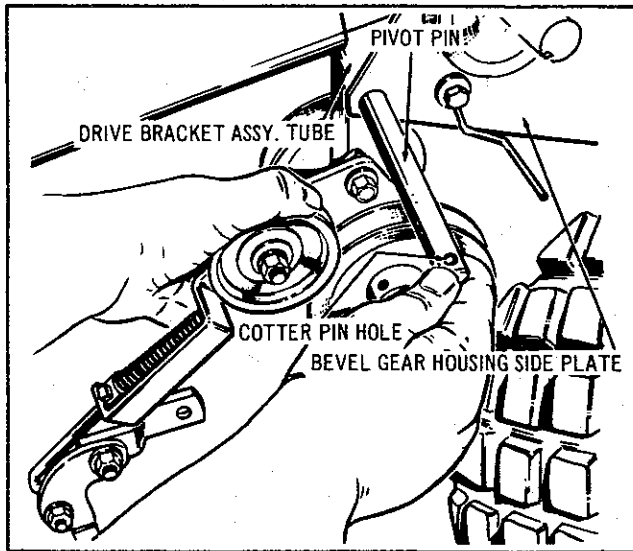

FIG. 16
2. Holding the Power Take-Off Assembly in left hand as shown in Figure 16, position the tube of the Drive Bracket Assembly between the Bevel Gear Housing Side Plates. Align the holes in Side Plates with the hole in Drive Bracket Assembly Tube and insert Pivot Pin through holes in Side Plates and Drive Bracket Assembly Tube.